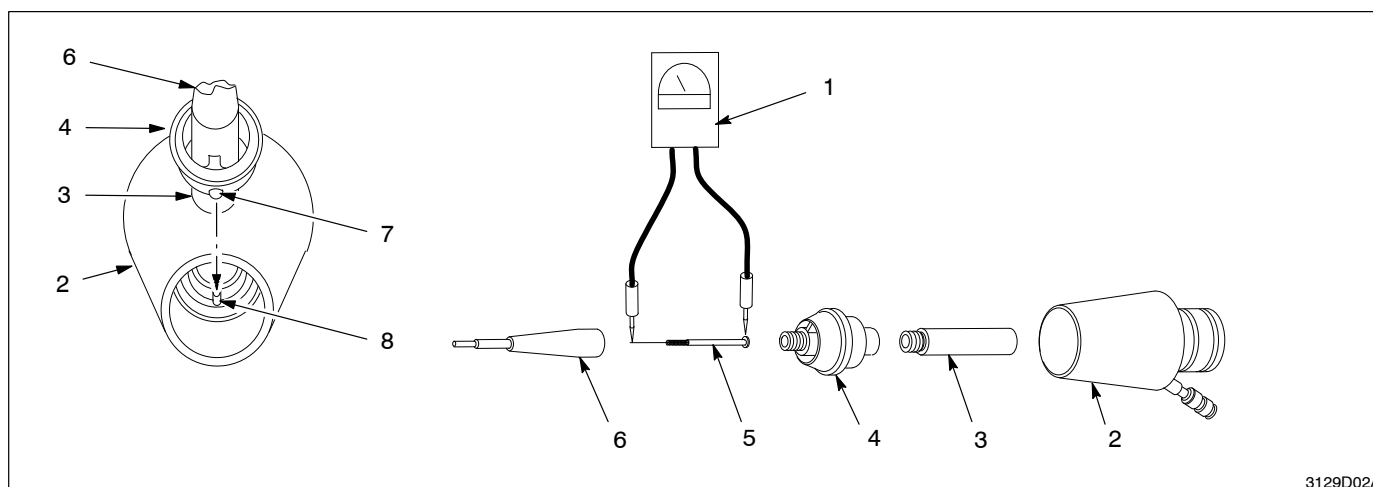

Fig. 2 Nozzle extension repair
1. See Figure 2. Push on the wear sleeve (3) to get the wear sleeve/spider/resistor holder assembly (3, 4, 5, 6) out of the nozzle adapter (2).
2. Unscrew the wear sleeve (3) and resistor holder (6) from the spider (4).
3. Remove the resistor (5) from the resistor holder.
8. Align the small pin (7) on the spider with the slot (8) in the nozzle adapter. Press the spider/resistor holder assembly (3, 4, 5, 6) back into the nozzle adapter.